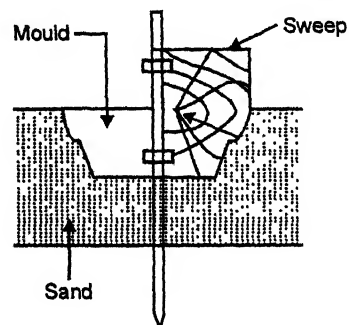

Fig. 8.8. Sweep pattern
#### 7. Sweep pattern : Refer to Fig. 8.8.
- A *sweep* is a template of wood or other material which has contour corresponding to the shape and size of casting. It is *rotated about a central spindle* (See Fig. 8.8).